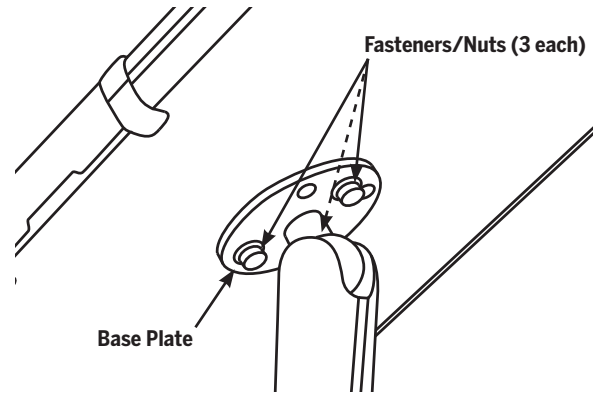

Figure 19. Install Base Plate to Clipboard
2. Install the Base Plate to the back of the Clipboard as shown in **Figure 19**, using three 16 mm fasteners and three Nyloc nuts. Torque the fasteners to **6.0 N-m (4.4 ft-lbf)**.